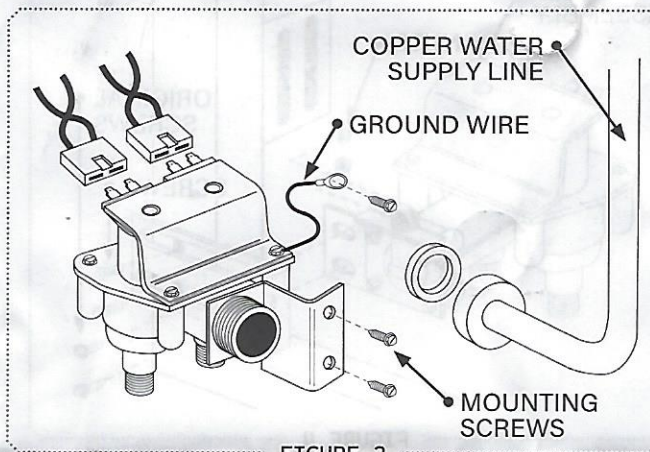

FIGURE 2
6. Remove wiring plug from the coil, and remove mounting screws from mounting bracket and green ground wire. (See Figure 2)